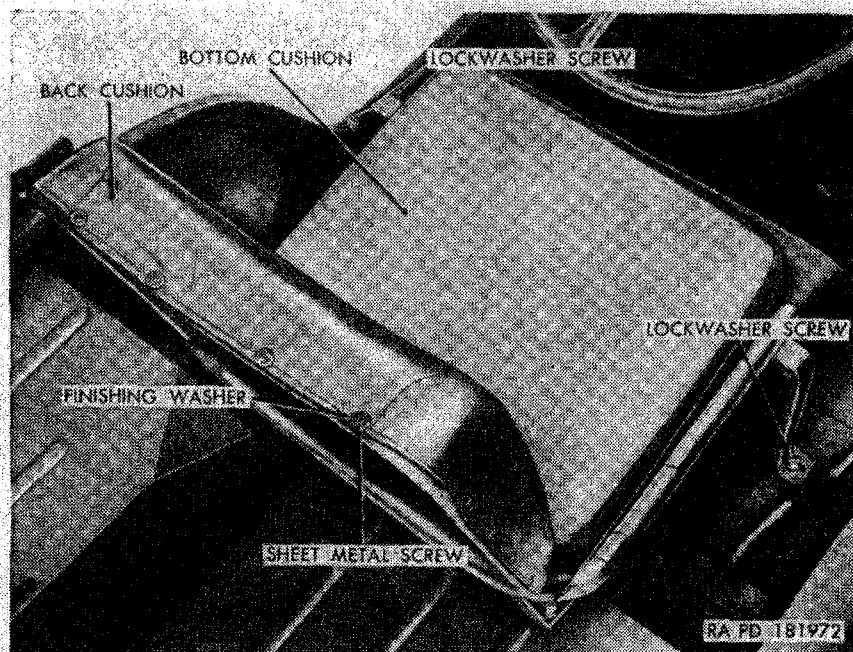

Figure 191. Driver's seat assembly (M38A1)—installed.
d. Driver's and Passenger Seat Cushion Assemblies (figs. 191 and 192).
- (1) *Removal.* Remove driver's seat assembly (a(1) above). Remove passenger seat assembly (b(1) above).